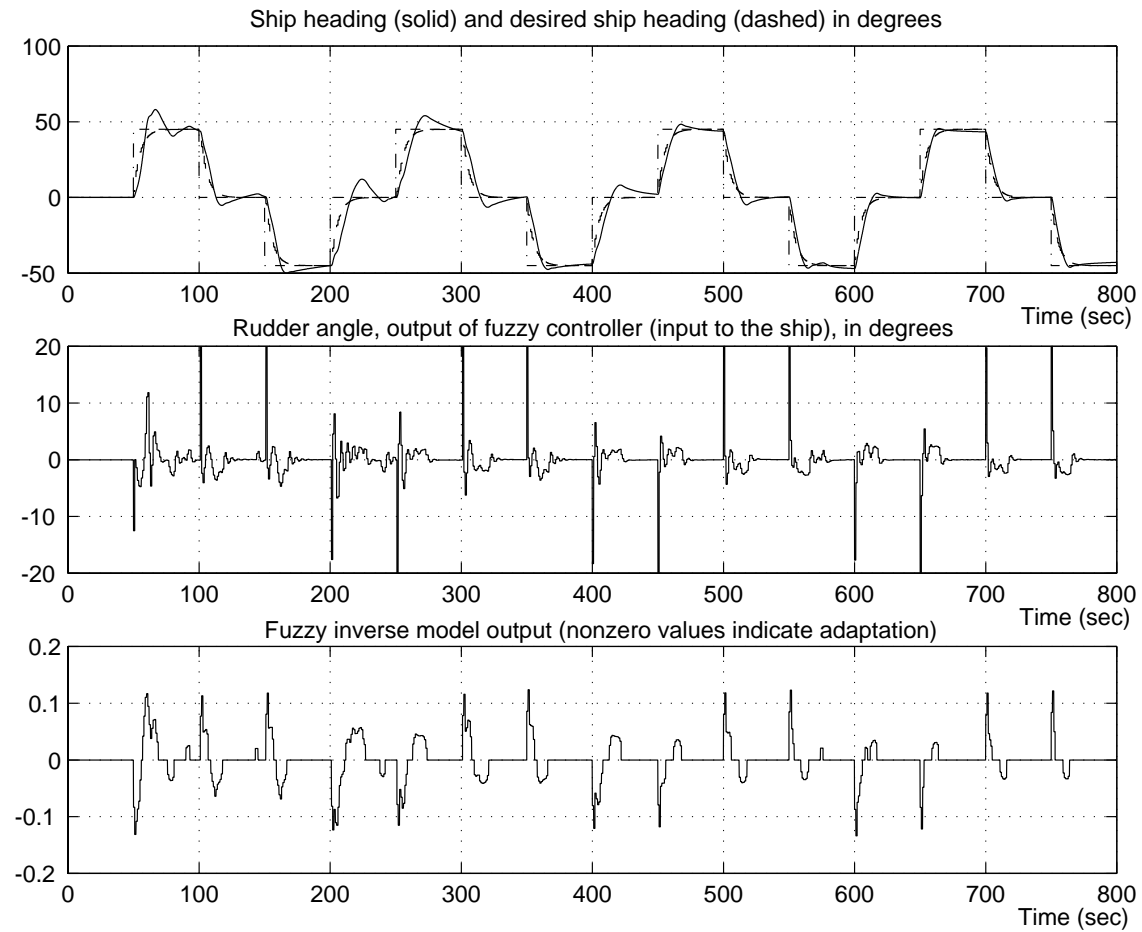

Figure 11: FMRLC response, rule-base synthesis for tanker.
- To see that it can synthesize a rule-base see the response in Figure 11 (compare to direct fuzzy controller)